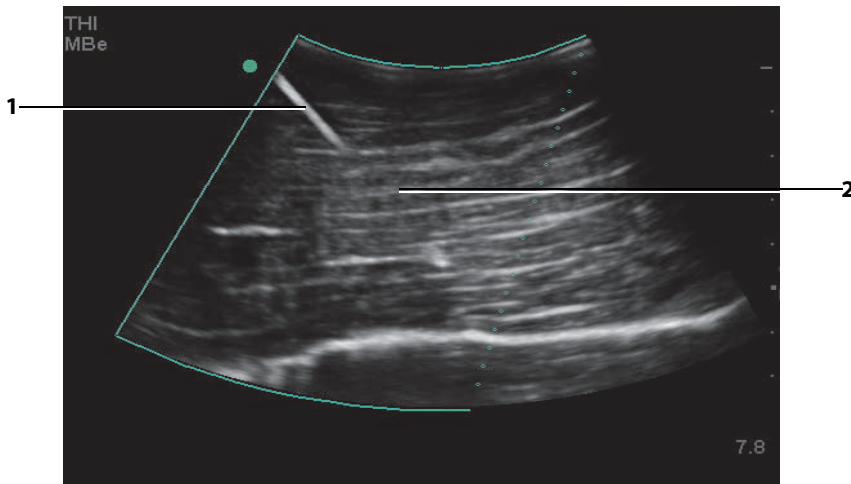

Figure 3: MBe image with a curved array transducer
- Note that the beam divergence of a curved array transducer may prevent a segment of the needle shaft from showing in the image. (See Figure 3.) The needle tip may not show.
For curved array transducers, MBe can help identify the direction of the needle, although only segments of the needle shaft may show in the image. (See Figure 3.) Use movement and fluid injection to help verify the needle-tip location.